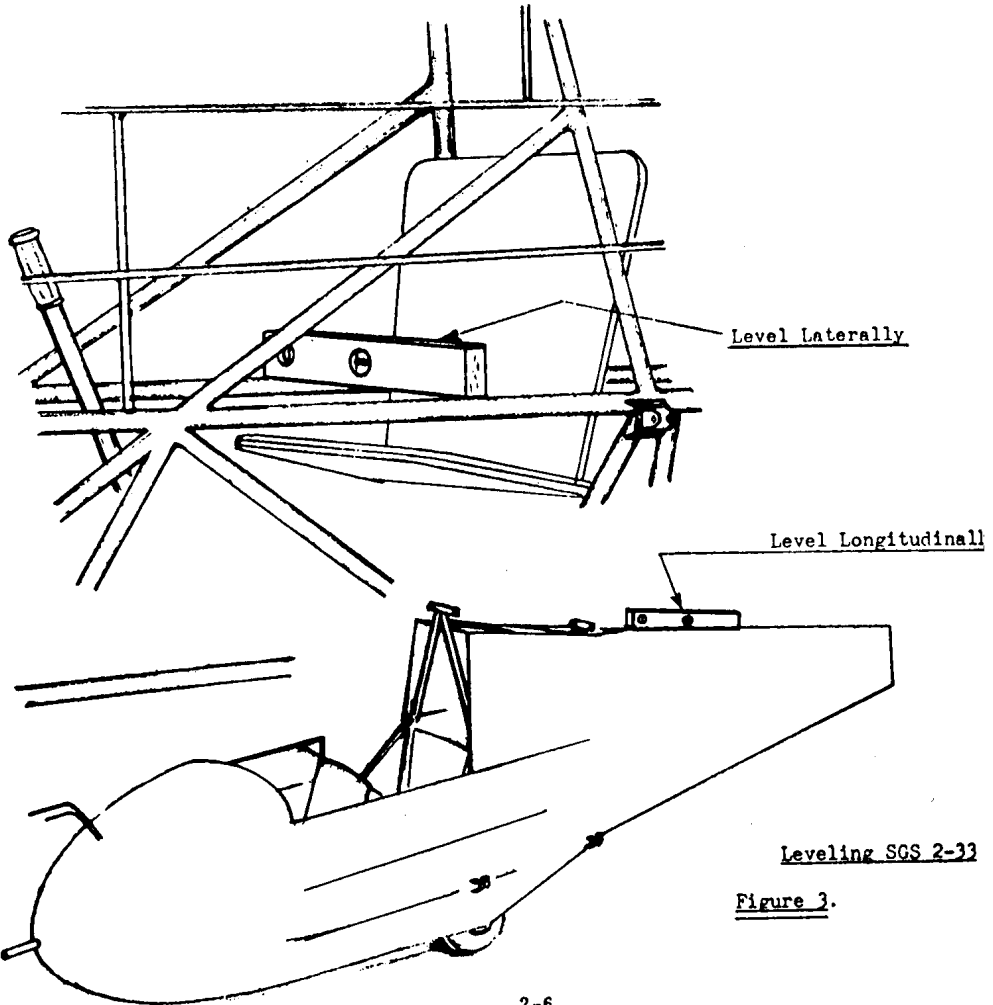

Figure 3.
- To level fuselage laterally, prop up the wing tips and test for horizontal on fuselage members, see Figure 3.
- To level longitudinally, prop up the tail and test for horizontal on the top longeron of fuselage aft of wing, see Fig. 3.